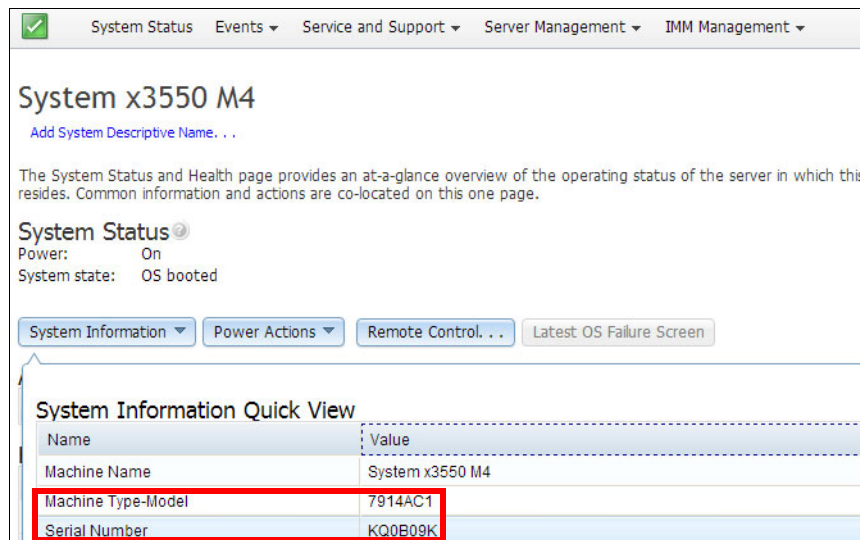

Figure 2-10 Obtain System UIDs
2. Click **System Status** then click **System Information**. We see the MTSN 7914KQoD09K, as shown in Figure 2-10. The Machine type is the first four digits of the Machine Type Model value.